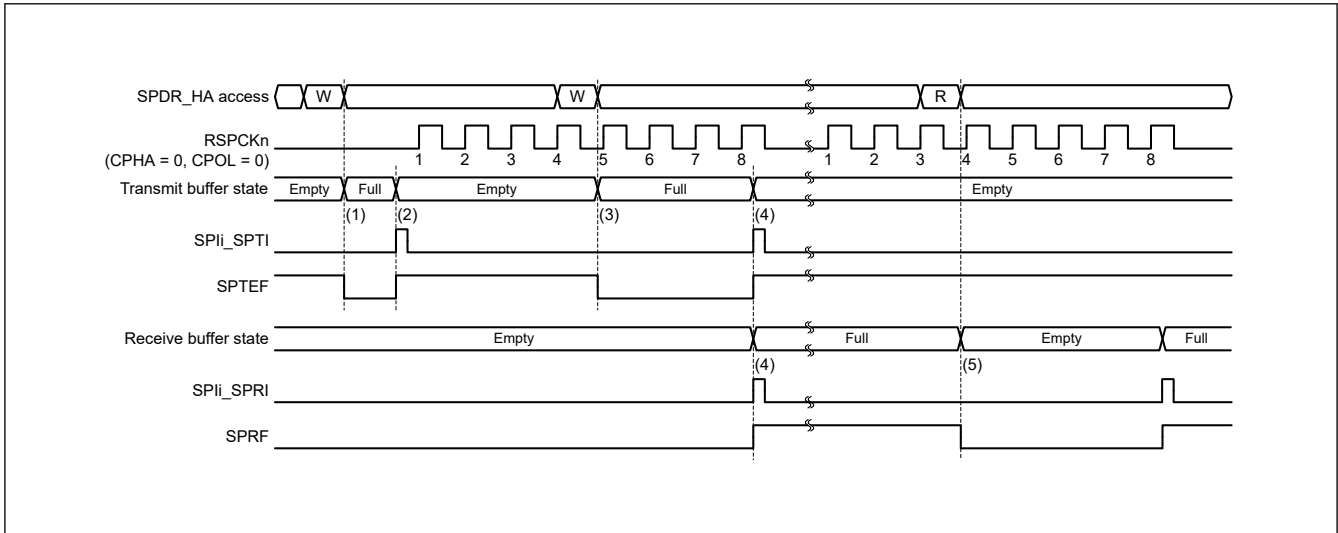
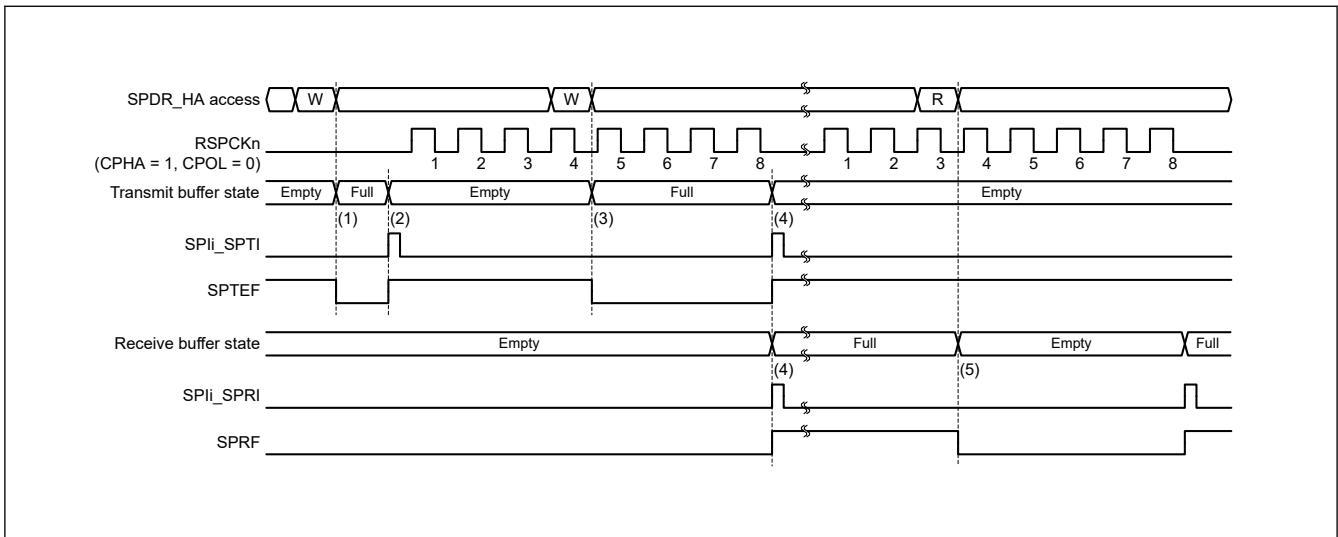

Figure 27.26 Operation example of the SPI_SPTI and SPI_SPRI interrupts when CPHA = 0 and CPOL = 0 in master mode
Figure 27.27 Operation example of the SPI_SPTI and SPI_SPRI interrupts when CPHA = 1 and CPOL = 0 in master mode
Figure 27.26 and Figure 27.27 show examples of operation of the transmit buffer empty interrupt (SPIi_SPTI) and the receive buffer full interrupt (SPIi_SPRI). The SPDR_HA register accesses shown in these figures indicate the conditions of access to the register, where W denotes a write cycle and R a read cycle. In Figure 27.26, the SPI performs an 8-bit serial transfer when SPCR.TXMD bit is 0, the SPCMD0.CPHA bit is 0, and the SPCMD0.CPOL bit is 0. In Figure 27.27, the SPI performs an 8-bit serial transfer when SPCR.TXMD bit is 0, the SPCMD0.CPHA bit is 1, and the SPCMD0.CPOL bit is 0.
The operation of the SPI at timings (1) to (5) in Figure 27.26 and Figure 27.27 is as follows: